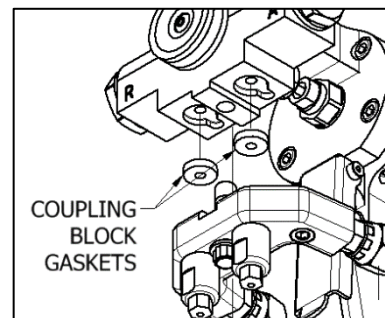

Figure 7: Coupling Block Gaskets
4. Ensure the **Coupling Block Gaskets** are installed in the **Gun Block**. Replace if necessary (see Figure 7).